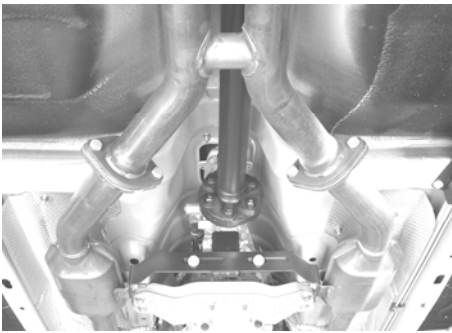

Figure 1
1. Unbolt the two flanges shown in figure 1 located behind the catalytic converters.